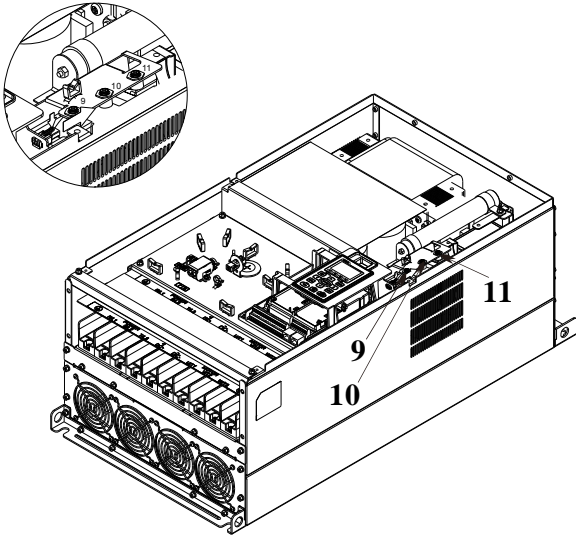
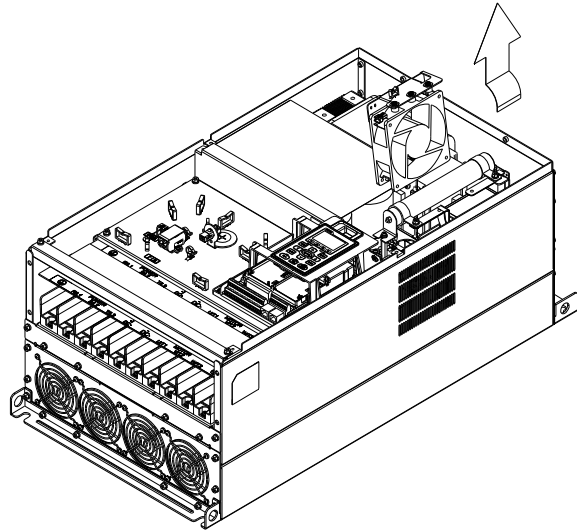

Figure 3
Figure 4
(1) Loosen the screws 1~4 (as shown in figure below) and remove the cover. Screw torque: 14~16kg-cm (12.2~13.9lb-in).
(2) Loosen the screws 5~8 (as shown in figure below) and remove the cover. Screw torque: 24~26kg-cm (20.8~22.6lb-in).
- (3) As shown in the partially enlarged image, disconnect the fan's power.
- (4) Loosen the screws 9~11 (figure 3) and remove the fan (figure 4). Screw torque: 24~26kg-cm (20.8~22.6lb-in)